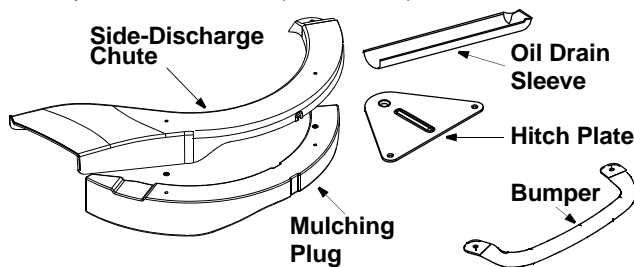

Figure 1
- Remove loose parts from the grass catcher , literature bag and/or the crate very carefully. Refer to Figure 1.
The hitch plate, if equipped, can be located with the loose parts. See Figure 1 .